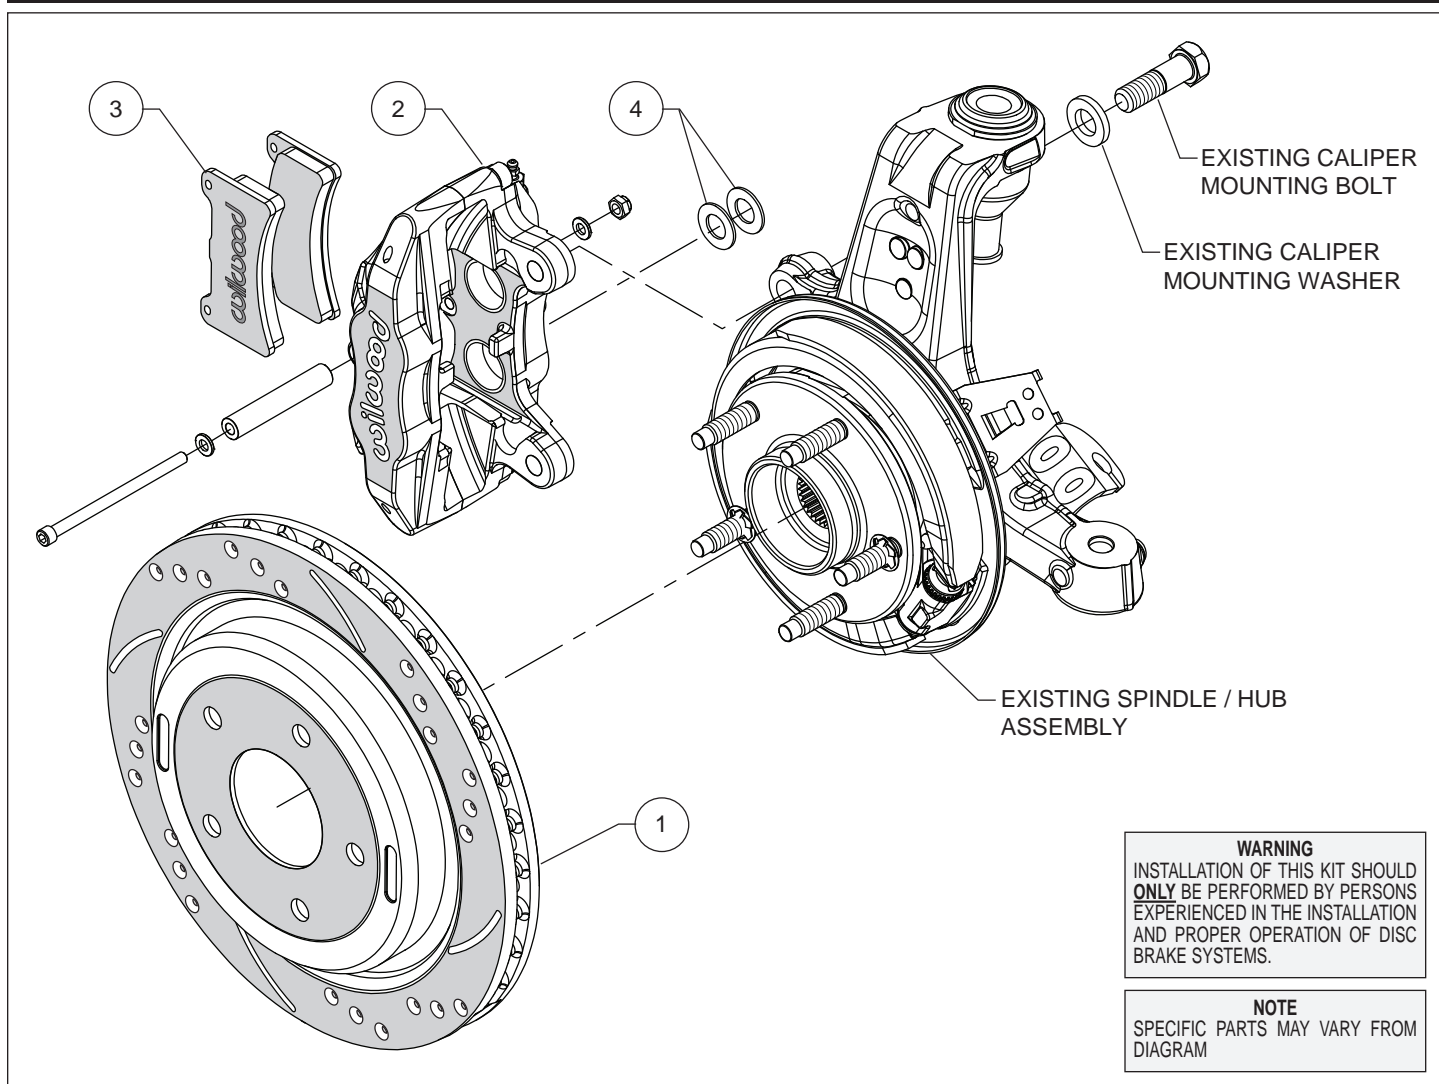

Figure 1. Typical Installation Configuration
**Assembly Instructions** (numbers in parenthesis refer to the parts list and Figure 1 on the preceding page): **CAUTION:** All mounting bolts must fully engage threaded holes.
- Slide the rotor/hat (1) onto the axle hub. **NOTE:** The hat must fit flush against the axle hub flange or excessive rotor run out may result. Install three lug nuts (finger tight) to keep the rotor/hat in place while continuing with the installation.
- Install the Wilwood DPC56 caliper (2) in the exact position as the original caliper, Photo 1. Secure the caliper to the OE mounting tabs with the original bolts and washers using red *Loctite*® 271 on the bolt threads. Torque bolts to manufacturer's specifications.